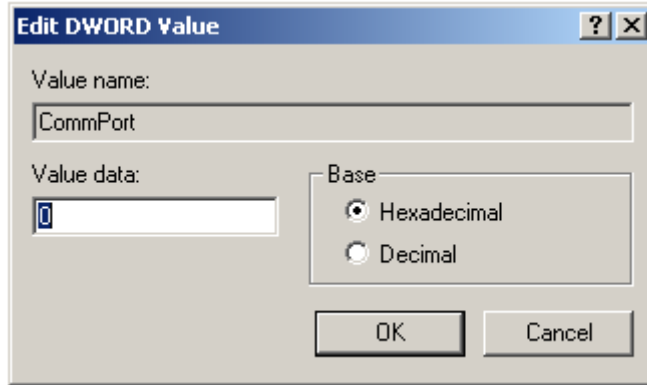

Figure 4, Edit DWord Value
12. Verify OBDII Key by clicking on "OBDII" and double clicking on "CommPort". You should see the following dialog as shown in Figure 4.